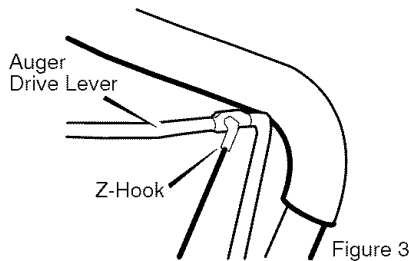

Figure 3
1. Attach the **auger drive cable** to the **auger drive lever** using the **Z-hook** (Figure 3).